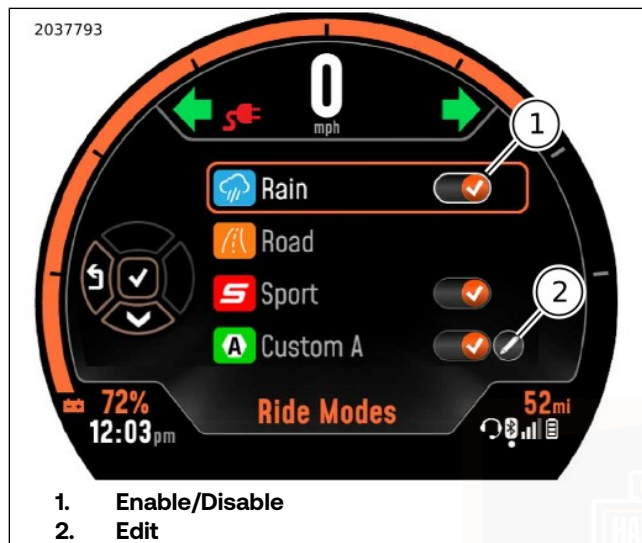

Figure 37. Ride Mode Display (Round IM)
See Figure 37. The ride modes screen displays the available ride mode icons and configuration options. Ride modes can be enabled or disabled using the enable/disable button (1). To access the ride mode customization screen, press the edit button (2) next to custom ride mode A or B. Current selectable ride modes will be shown in color, disabled ride mode icons are gray and the active ride mode will be highlighted.